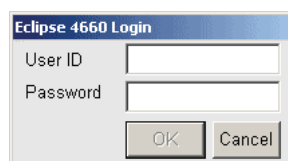

Figure 3.4. Eclipse 4660 Login dialog box
1. Turn on the power switch located on the Eclipse back. The Eclipse 4660 Login dialog box appears (Figure 3.4).